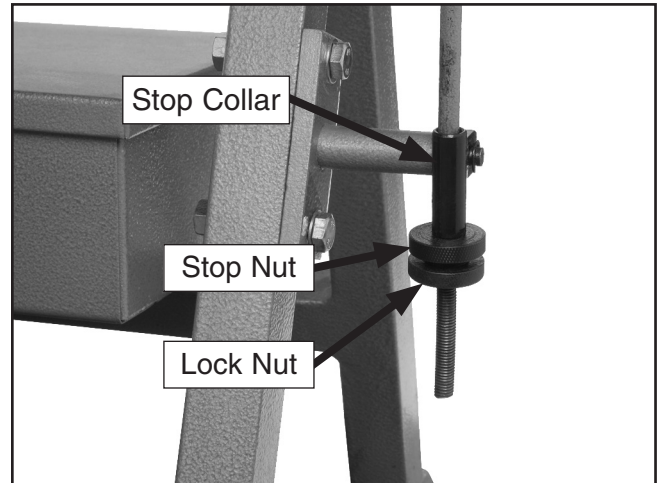

Figure 14. Stop nut tightened against stop collar on stop rod.
2. Thread the stop nut against the stop collar and tighten the lock nut against the bottom of the stop nut, as shown in **Figure 14**.